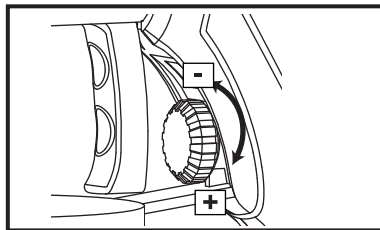

Fig. 7
Turn the fluid adjustment knob (16) anticlockwise to decrease the volume of the fluid output and clockwise to increase the volume of the fluid output (Fig. 7).